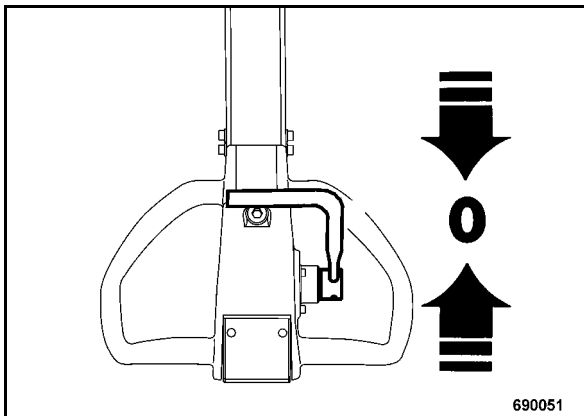

Fig. 15
- Shift the travel lever (Fig. 15) to position "0".